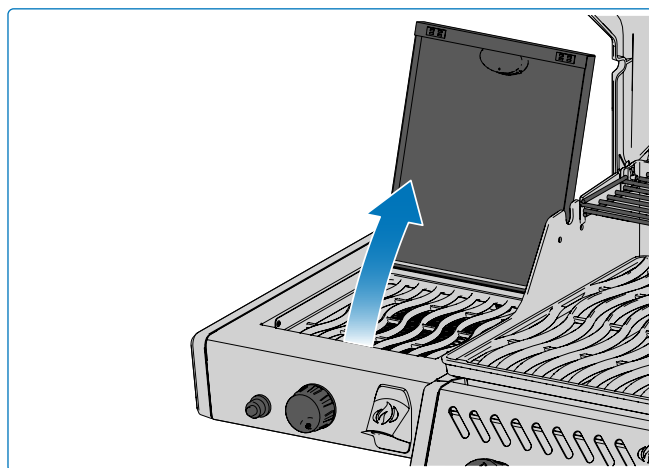

Fig. 10
1. Open burner cover **(Fig. 10)**